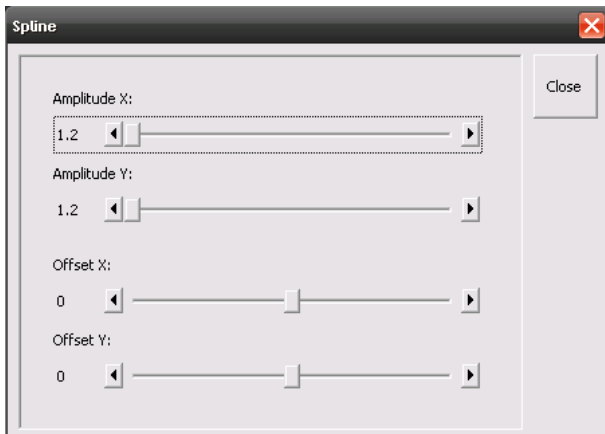

Fig. 13 Spline window
- The **Spline** window appears on the screen (see Fig. 13).